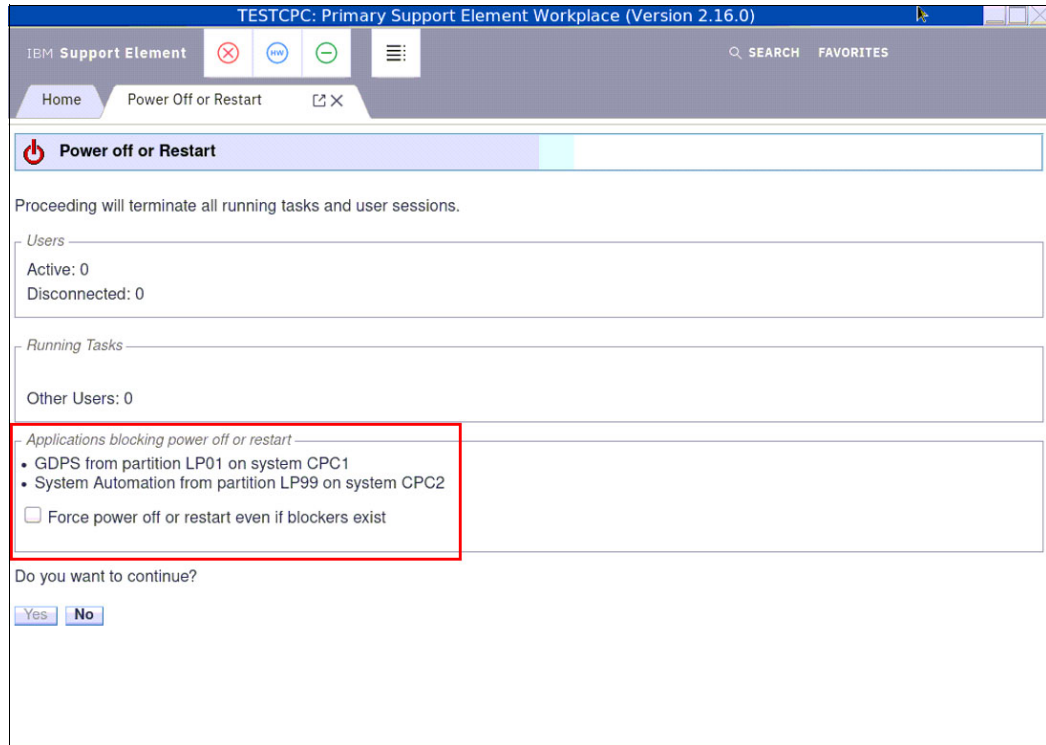

Figure 10-5 New information/question for SE power off or restart regarding GDPS or SA
With IBM z16, the SE and the BCPii for GDPS and System Automation (SA) features an improved communication to not disturb important tasks on each side. For example, if you want to restart an SE and GDPS or SA is performing an important task, the restart window prompts you to confirm that you want to force the restart, as shown in Figure 10-5 on page 417.